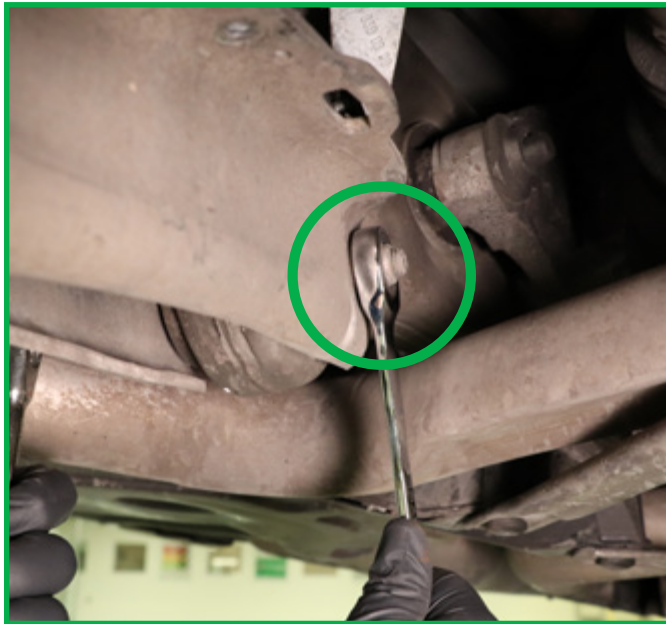

FIGURE 37
8. Tighten control arm at axle carrier. (Figure 37)